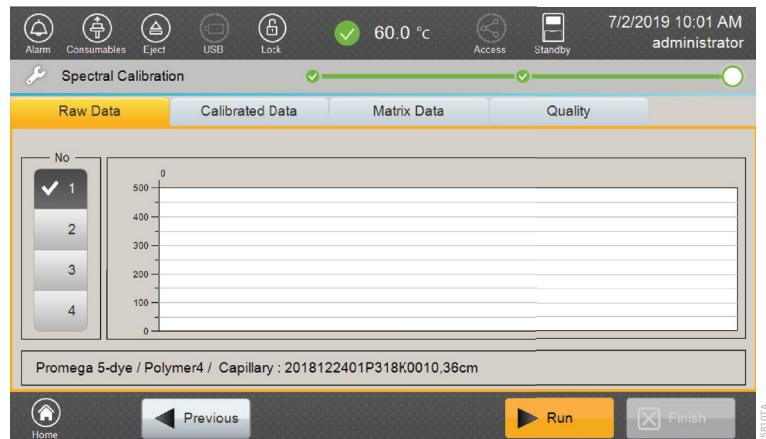

Figure 50. 'Spectral Calibration' screen.
- After the autosampler has returned to its home position, the 'Spectral Calibration' screen will automatically be displayed (Figure 50). Select **Run** to start the spectral calibration. Spectral calibration runs take about 30 minutes, regardless of dye set or polymer type.
The completed spectral calibration can be reviewed from the 'Spectral Calibration' screen (Figure 50). There are four review tabs to choose from: Raw Data, Calibrated Data, Matrix Data and Quality.